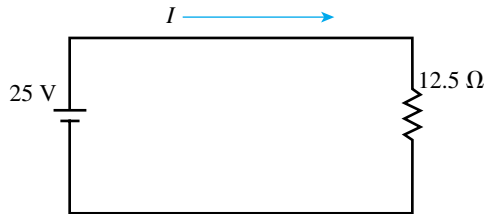

FIGURE 4–27 Simple circuit to illustrate computer analysis.
Now consider the nonlinear resistance plot of Figure 4–25. At $V = 20$ V, $I = 20$ mA. Therefore, $R_{dc} = 20 \text{ V}/20 \text{ mA} = 1.0 \text{ k}\Omega$; at $V = 120$ V, $I = 60$ mA, and $R_{dc} = 120 \text{ V}/60 \text{ mA} = 2.0 \text{ k}\Omega$. This resistance therefore increases with applied voltage. However, for small variations about a fixed point on the curve, the ac resistance will be constant. This is an important concept in electronics. However, since dynamic resistance is beyond the scope of this book, we must leave it for later courses to explore.
We end our introduction to Ohm's law by solving several simple problems using Electronics Workbench and OrCAD PSpice. As noted in Chapter 1, these are application packages that work from a circuit schematic that you build on your screen. (Since the details are different, we will consider the two products separately, using the circuit of Figure 4–27 to get started.) Because this is our first look at circuit simulation, considerable detail is included. (Although the procedures may seem complex, they become quite intuitive with a little practice.) Both packages run under Windows.
Figure 4–28 shows an Electronics Workbench (EWB) user interface screen. (This is Version 5, the version current at the time of writing.) Along the top are toolbars with icons and menu items that you can select with your mouse. (Drop-down boxes open to indicate the purpose of your selection.) For example, if you position the mouse pointer over the Basic icon and click the left button, the Basic Parts bin shown in Figure 4–28 opens.
- To “wire” the circuit, move the mouse pointer to the top battery terminal and when a dot appears, as in Figure 4–29(a), click and drag the wire to the top of the resistor as in (b). Release the mouse button and the wire routes itself neatly as in (c). Similarly, add the bottom wire.